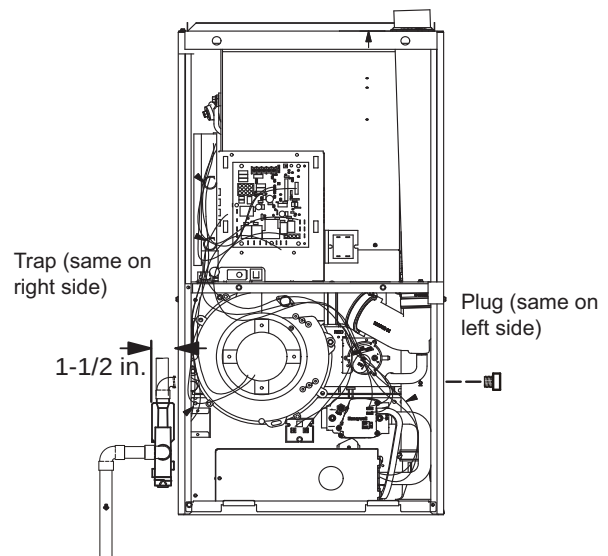

Figure 37. Condensate Trap and Plug Locations
This unit is designed for either right- or left-side exit of condensate piping. Refer to **Figure 37** and **Figure 39** for condensate trap locations.
2. For furnaces with a 1/2" drain connection use a 3/8 allen wrench and remove plug (Figure 37) from the cold end header box at the appropriate location on the side of the unit. Install field-provided 1/2 NPT male fitting into cold end header box. For furnaces with a 3/4" drain connection use a large flat head screw driver or a 1/2" drive socket extension and remove plug. Install provided 3/4 NPT street elbow fitting into cold end header box. Use Teflon tape or appropriate pipe dope.